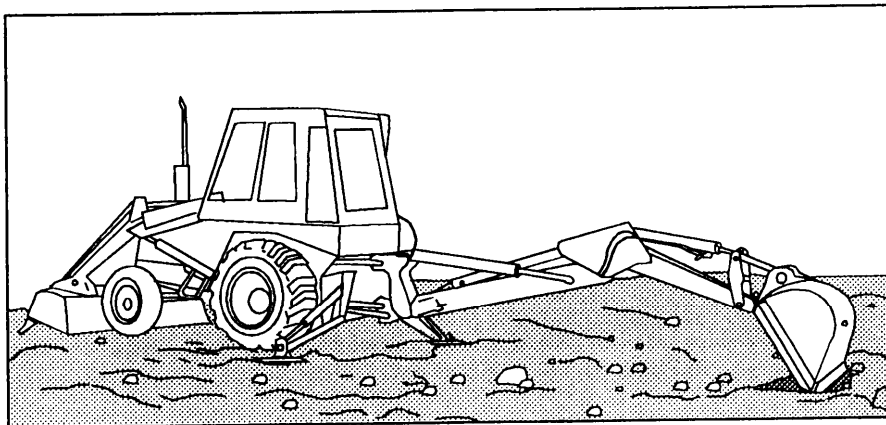

Figure 9-50.—Bucket and boom in position for digging operations.
7. Extend the boom and bucket to start digging operations, as shown in figure 9-50.